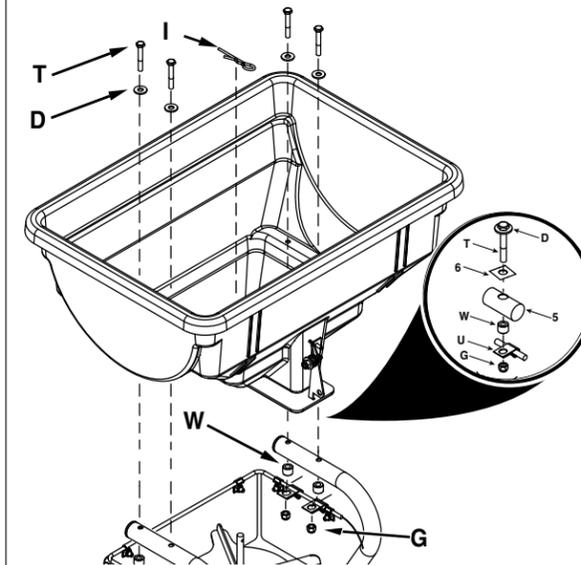

Figure 8
STEP 8: (SEE FIGURE 8)
- Install the hopper onto the frame and guide the impeller shaft through the hole in the flow plate and hopper. Insert the hairpin agitator (I) through the impeller shaft. Install four 1/4 x 1-3/4" hex bolts (T) and 5/16" washers (D) into the hopper and through the frame.
- Install four 5/16" spacers (W) and the deflector kit onto the four bolts (T) just installed and secure with four 1/4" nylock nuts (G). Tighten hardware but be careful not to overtighten.